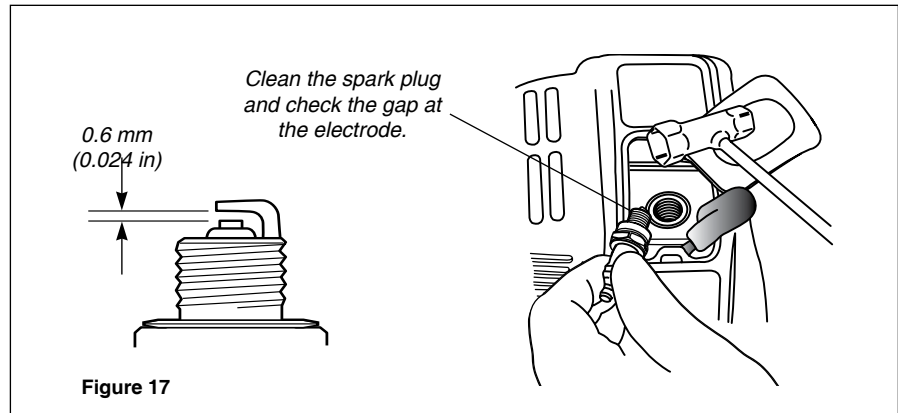

Figure 17
- Remove and clean the spark plug. Adjust the spark plug electrode gap to 0.6 mm (0.024 in). If the spark plug must be replaced, use only an NGK CMR5H or equivalent resistor type spark plug of the correct heat range. See Figure 17.